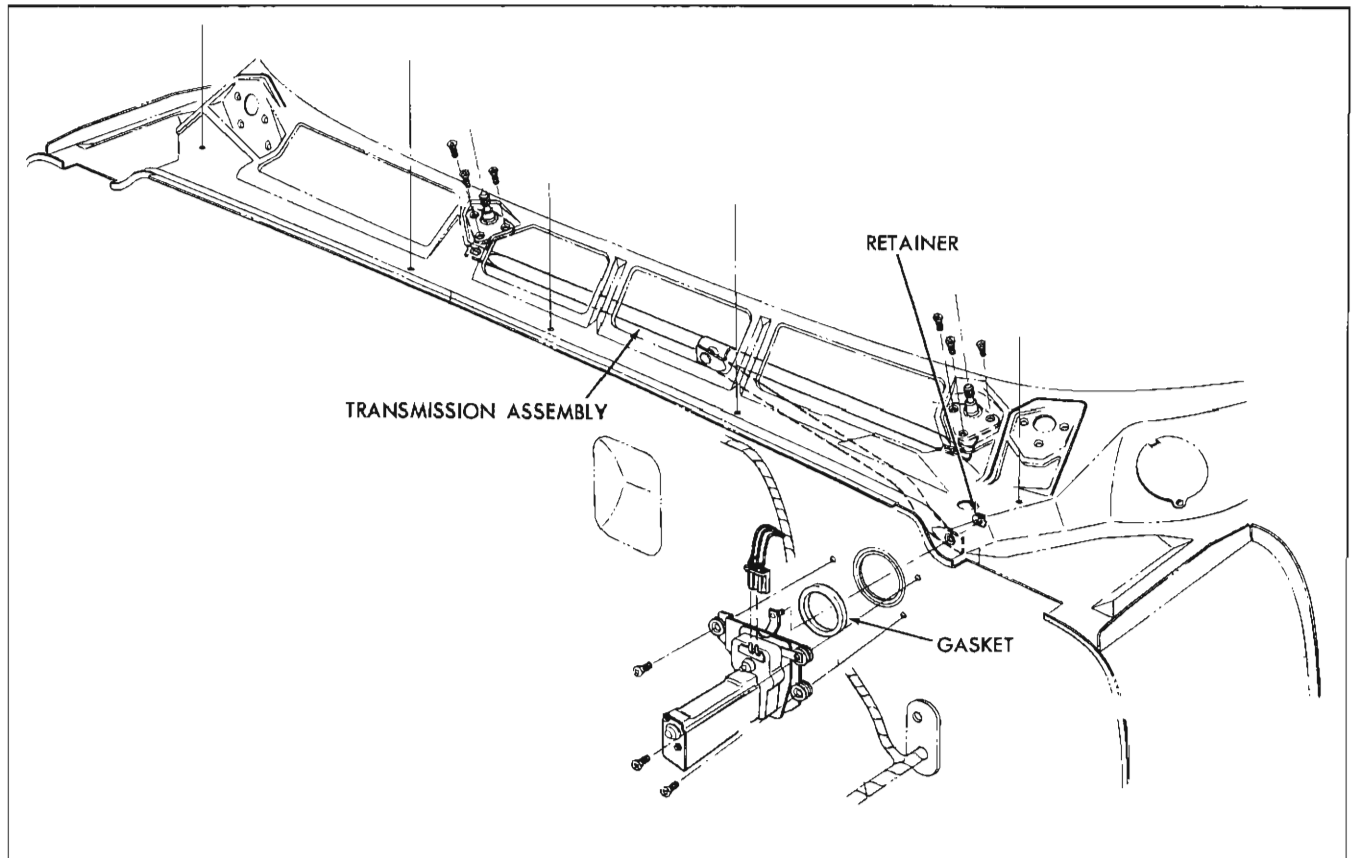

Fig. 11-79 Windshield Wiper Transmission
### WIPER TRANSMISSIONS AND LINKAGE—REPLACE (FIG. 11-79)
1. Make sure gasket is on motor (Fig. 11-79).